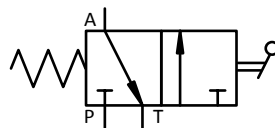

FIG 2.
E. The symbol for a 3/2 way directional control valve is shown in Fig 2.